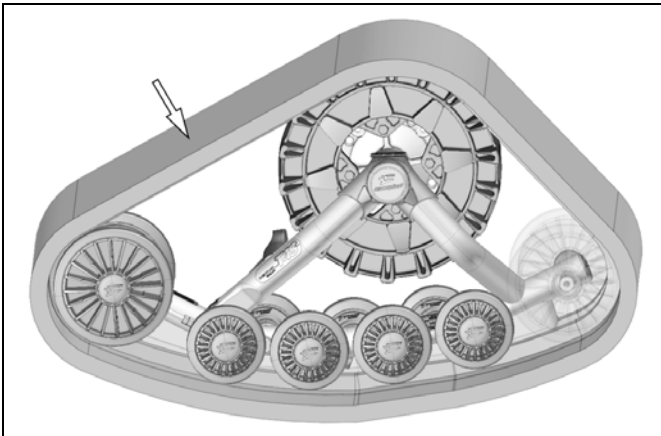

Figure 28
- Install the rubber track. See Figure 28.